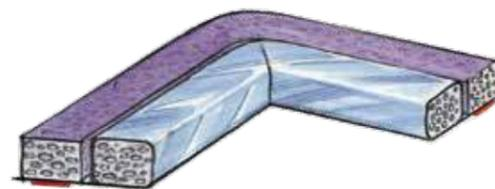

Figure 26.2 : A EMI gasket combined with an environmental seal.
- It is and will remain free of corrosion (Fig. 26.2)